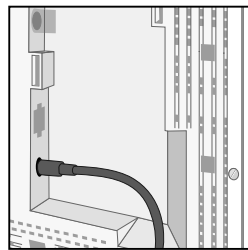

Figure D.1
4. Connect the AC Adapter cord to the monitor (Figure D.1).